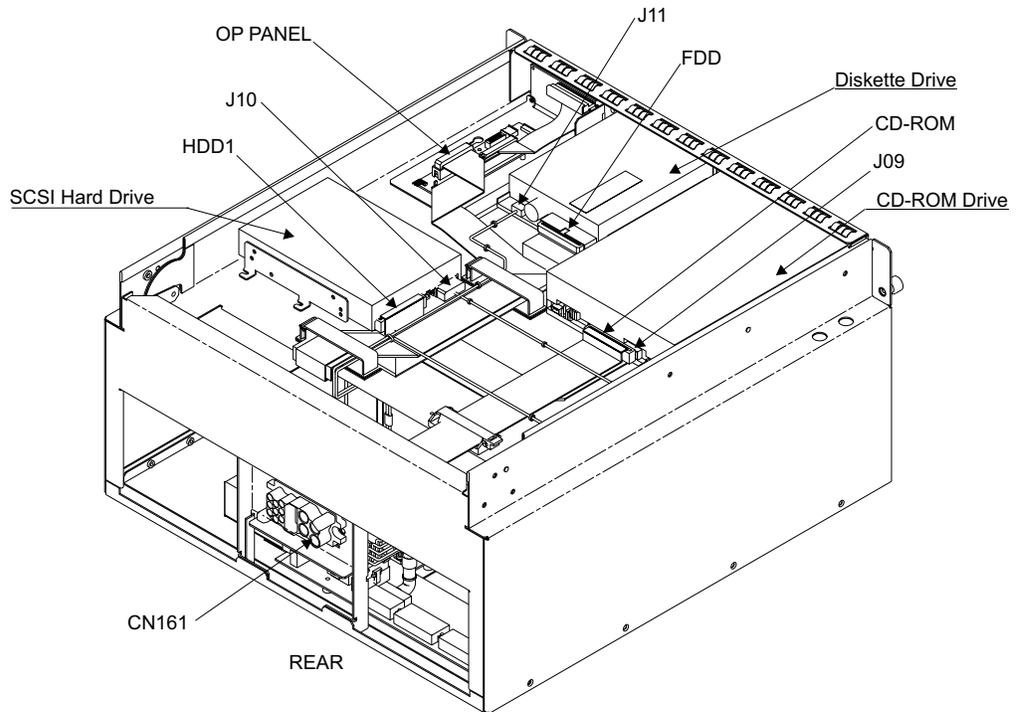

Figure 210. Cluster Bay Drive and Docking Connector Locations (S008648p)
- Cluster Bay Drive and Docking Connector Locations, Figure 210 on page 200